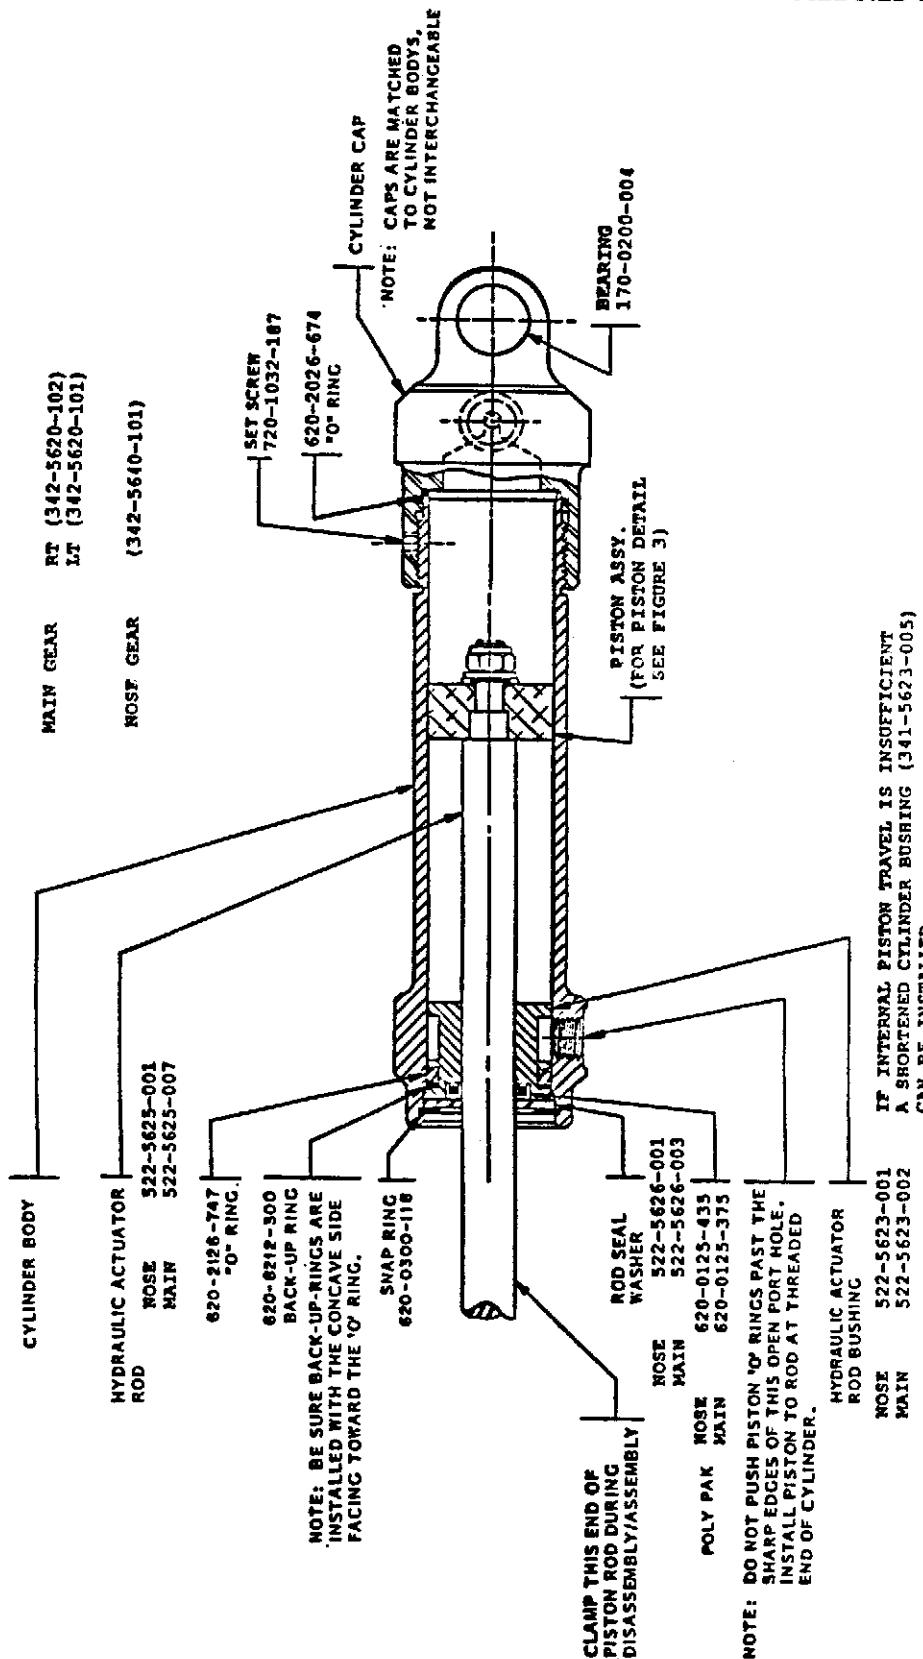
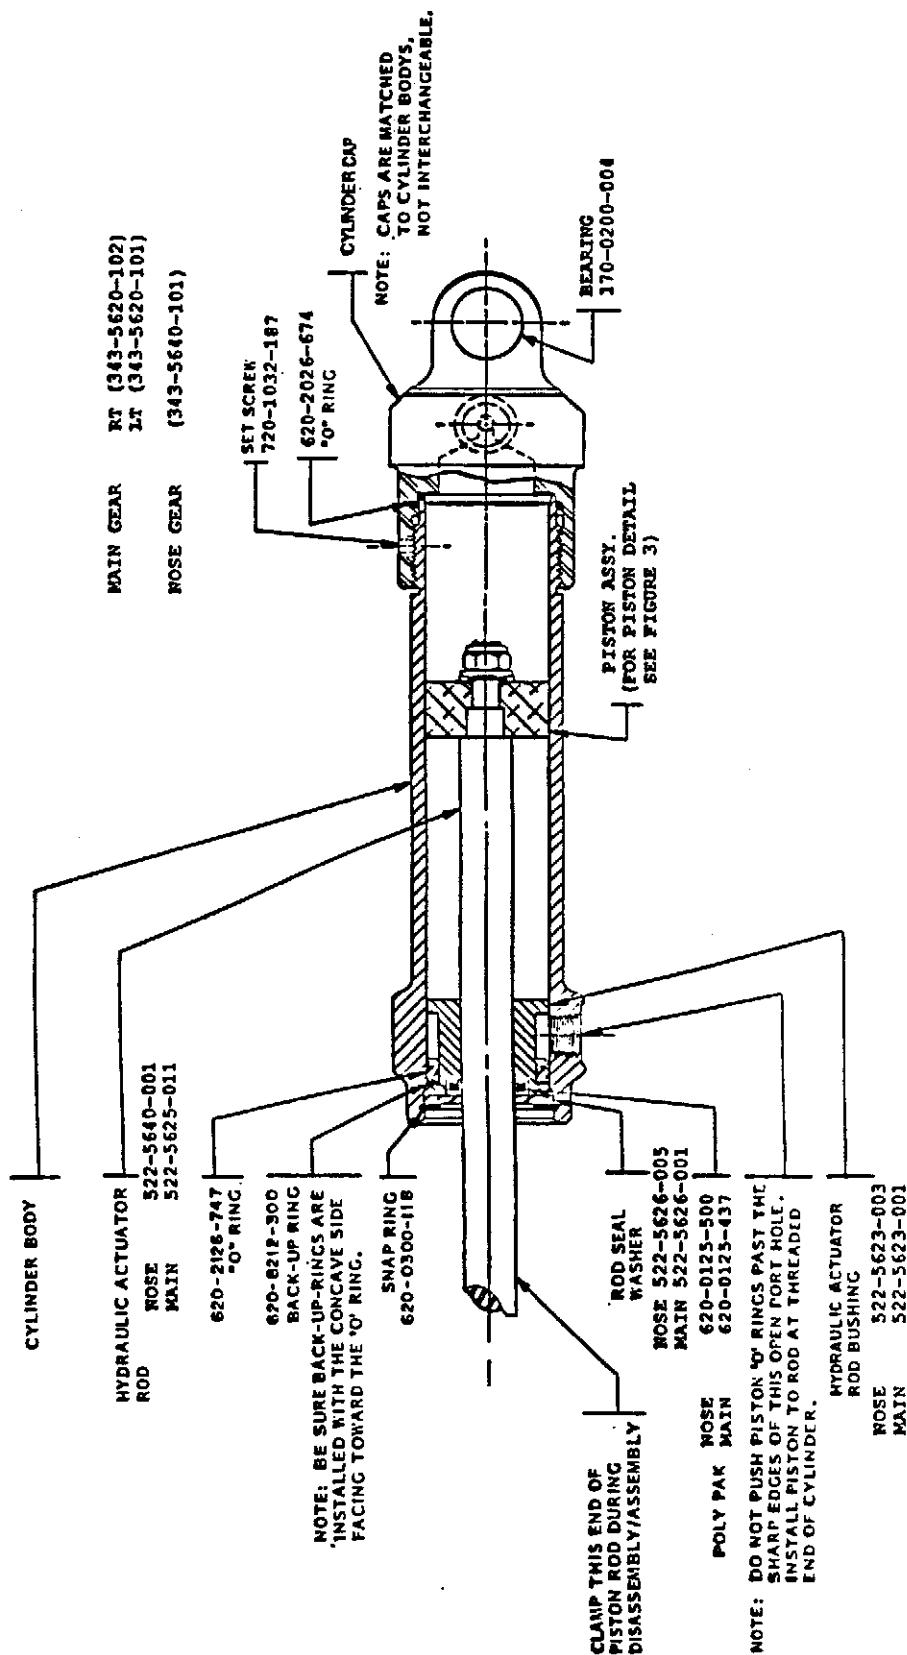

Figure 1: Glasair I, II-S and Super II-S Landing Gear Hydraulic Actuator
Figure 2: Glasair III Landing Gear Hydraulic Actuator
For simplicity, these instructions have been written to describe a generic actuator unit using only the name of the part. Cut-away actuator illustrations (see Figures 1, 2 and 3) have been supplied to give the specific part numbers for the components of various hydraulic actuators supplied with Glasair kits. To find the correct seal for use in a specific location on your aircraft, simply refer to the correct illustration for your type of kit: Figure 1 for Glasair I, II, II-S and Super II-S, or Figure 2 for Glasair III.
A) Install the new back-up ring (P/N 620-8212-300) and "O" ring (P/N 620-2126-747) onto the cylinder bushing, as shown in Figures 1 and 2. Install the back-up ring on the outboard side of the bushing (the side closest to the snap ring), as shown.